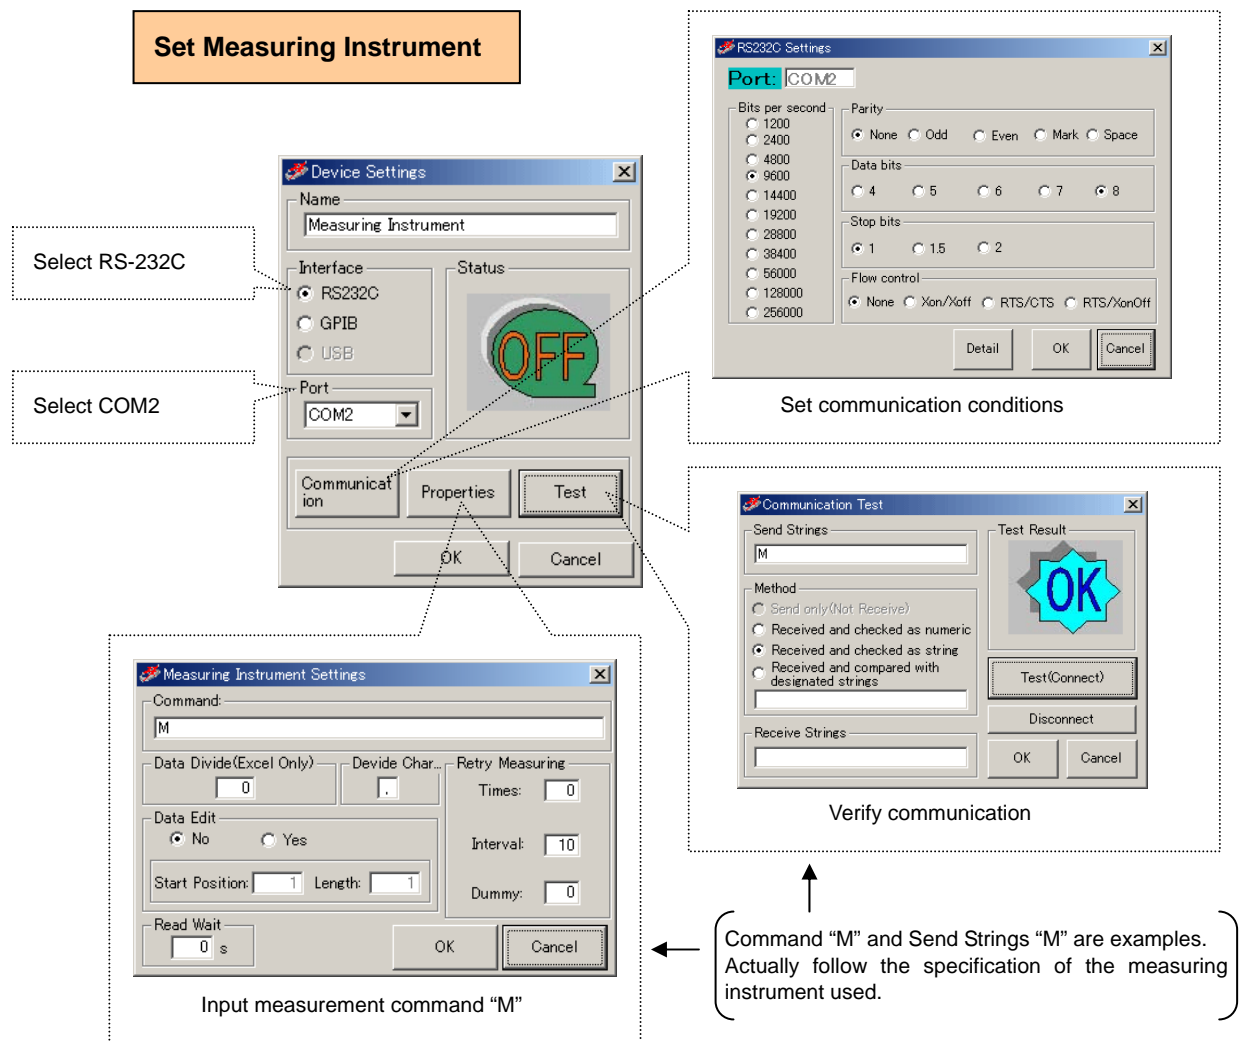

Fig. 4-50 Settings for Measuring Instrument
- 4 Displays the control characters specified in the Excel Instruction dialog (Fig. 4-50). Or, you can change the characters in this box.
- 5 If you select a control device to which the control characters are sent, click Send to transmit the characters to the device. In addition, comment strings described in Fig. 4-50 are displayed in the mark column of the destination file.